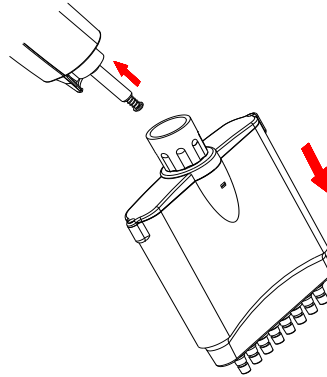

Figure 14: The lower part will come off easily and automatically.
5. The lower part will come off easily and automatically as shown in Figure 14.